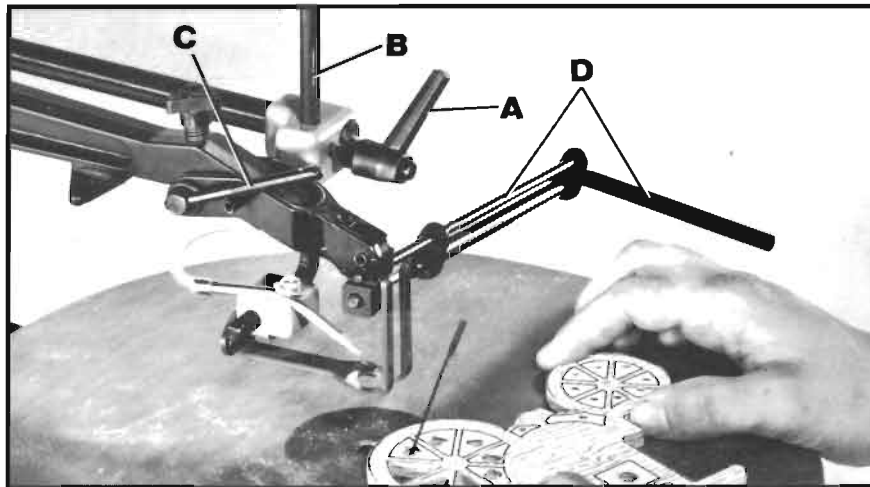

Fig. 28
2. Loosen lock handle (A) Fig. 28, and raise hold-down bar (B). Release blade tension by moving tension lever (C) forward and loosen upper blade holder screw using the quickset blade changing wrench (D). Move the blade forward and insert it into the next hole in the pattern, as shown. Reassemble blade back into upper blade holder and tighten upper blade holder screw with wrench (D).